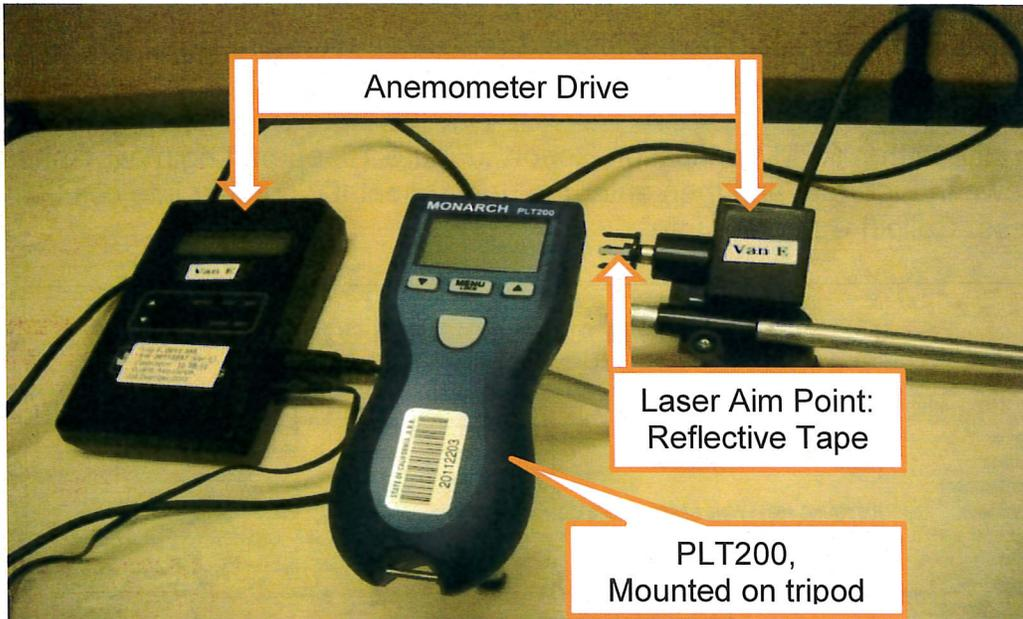

Figure 7: Anemometer Drive Test Configuration
12.2 The anemometer test configuration is illustrated in Figure 7